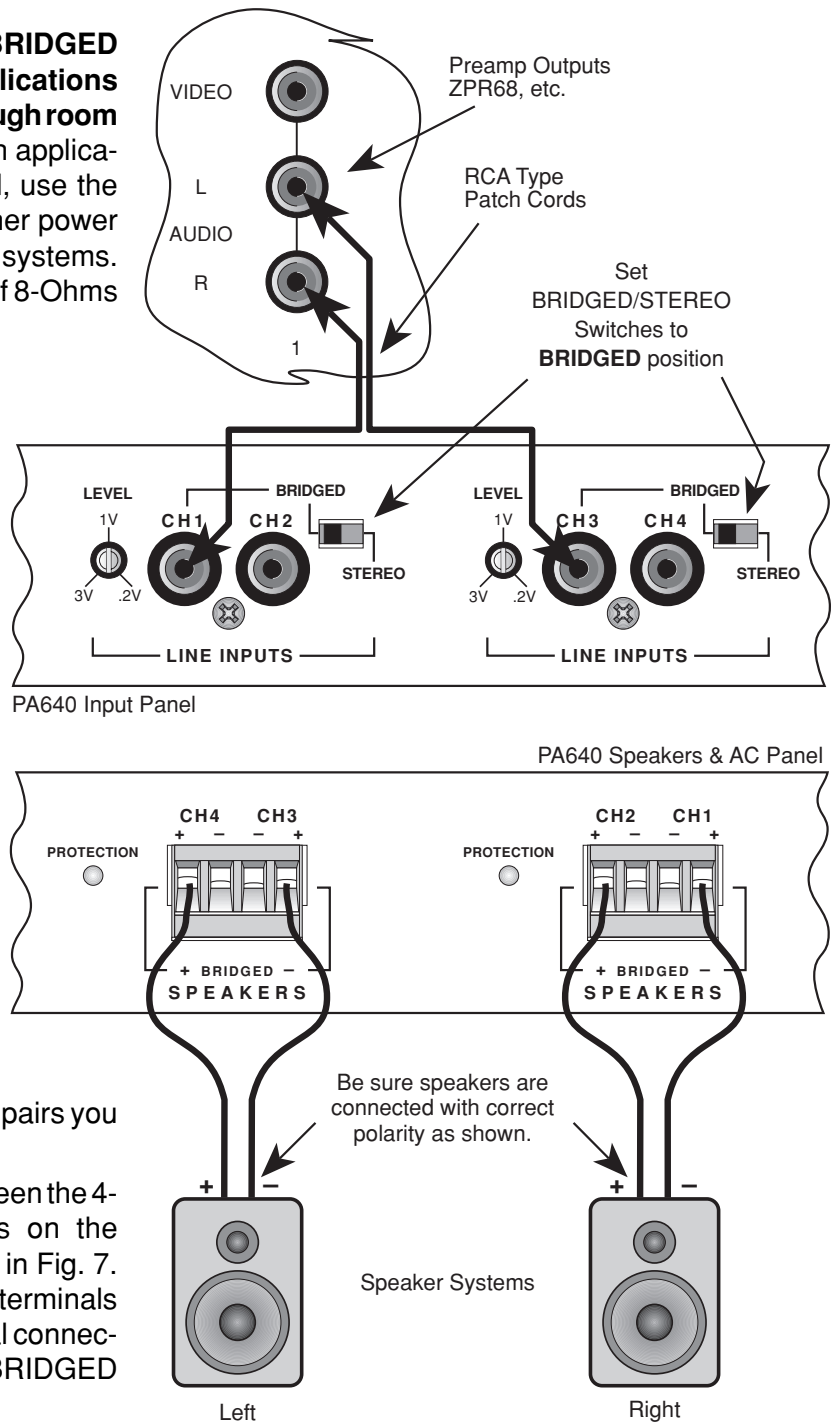

Fig. 7 BRIDGED Mode Connections
(Jacks marked CH2, CH4 & CH6 are disabled in BRIDGED mode). Refer to Fig. 7.
3. Connect one speaker wire pair between the 4-terminal "SPEAKERS" connectors on the PA640 and the speakers as shown in Fig. 7. Be sure to use only the two outer terminals marked "+" and "-" on the 4-terminal connector as shown on the panel for BRIDGED connections.